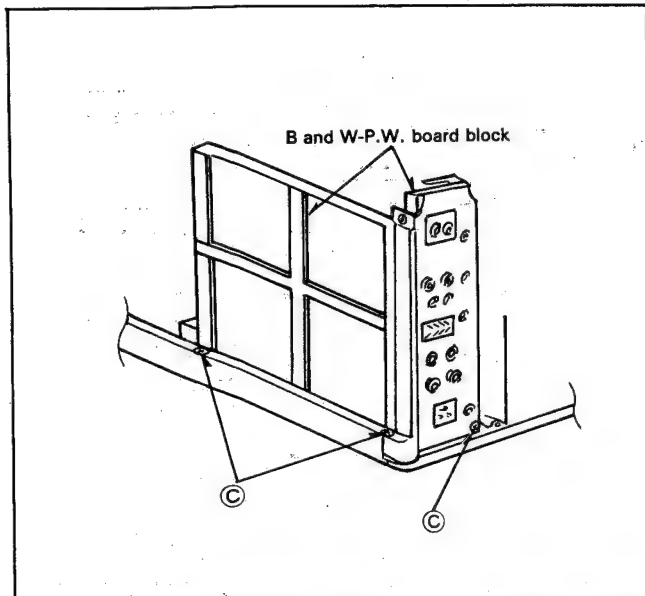

Fig. 4
1. Remove B and W-P.W. boards block as shown in Fig. 4 and 5.